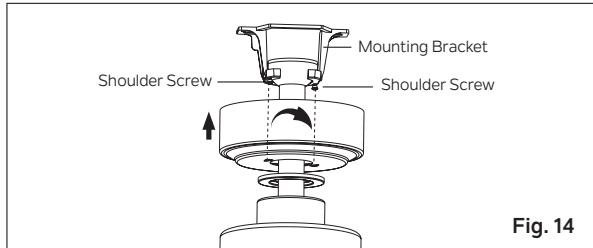

Fig. 14
Step 1. Loosen the two shoulder screws at the bottom of the mounting bracket.(do not remove). **(Fig. 14)**